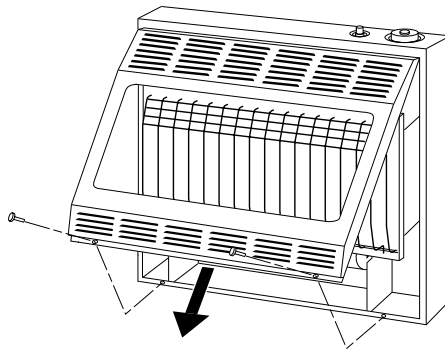

Figure 7 - Removing Front Panel Of Heater
1. Remove front panel of heater (see Figure 7, page 8).